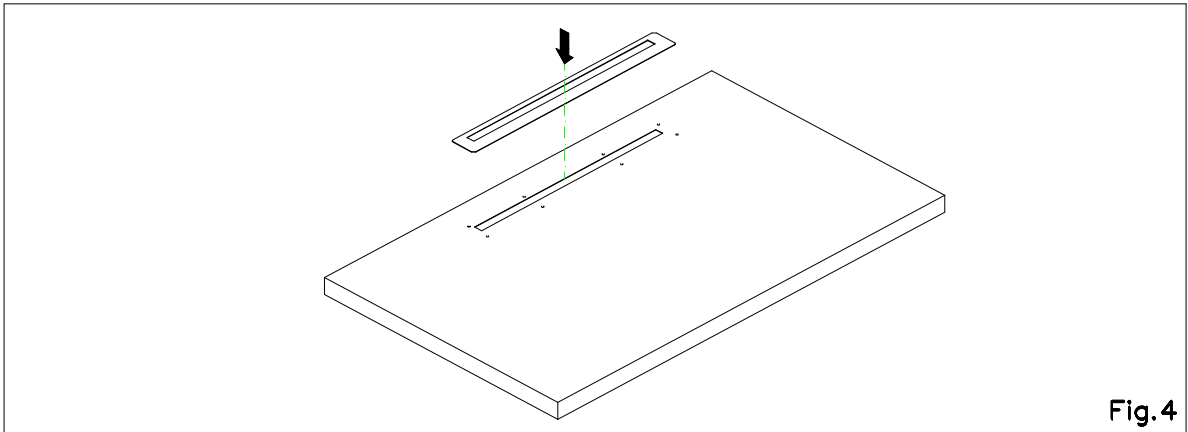

Fig.4
- 3) Insert the mounting plate in the performed holes (Fig. 4)